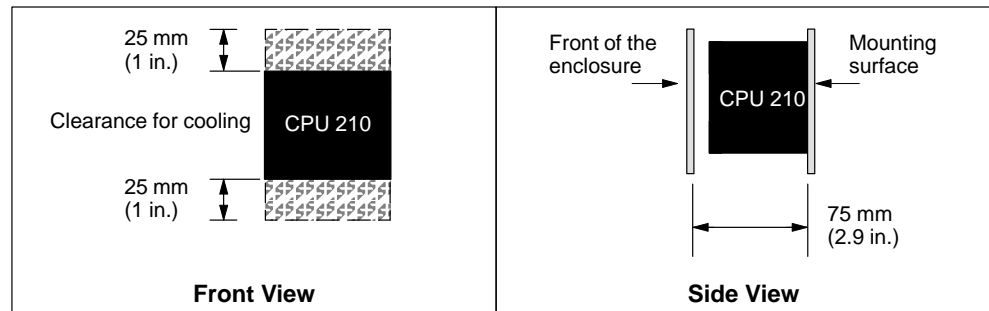

Figure 1-4 Clearance Requirements for Installing a CPU 210
- The CPU 210 is designed for natural convection cooling. You must provide a clearance of at least 25 mm (1 inch), both above and below the units, for proper cooling. See Figure 1-4. Continuous operation of all electronic products at maximum ambient temperature and load will reduce their life.
- If you are installing a CPU 210 on a panel, you must allow 75 mm (2.9 inches) for the minimum panel depth. See Figure 1-4.